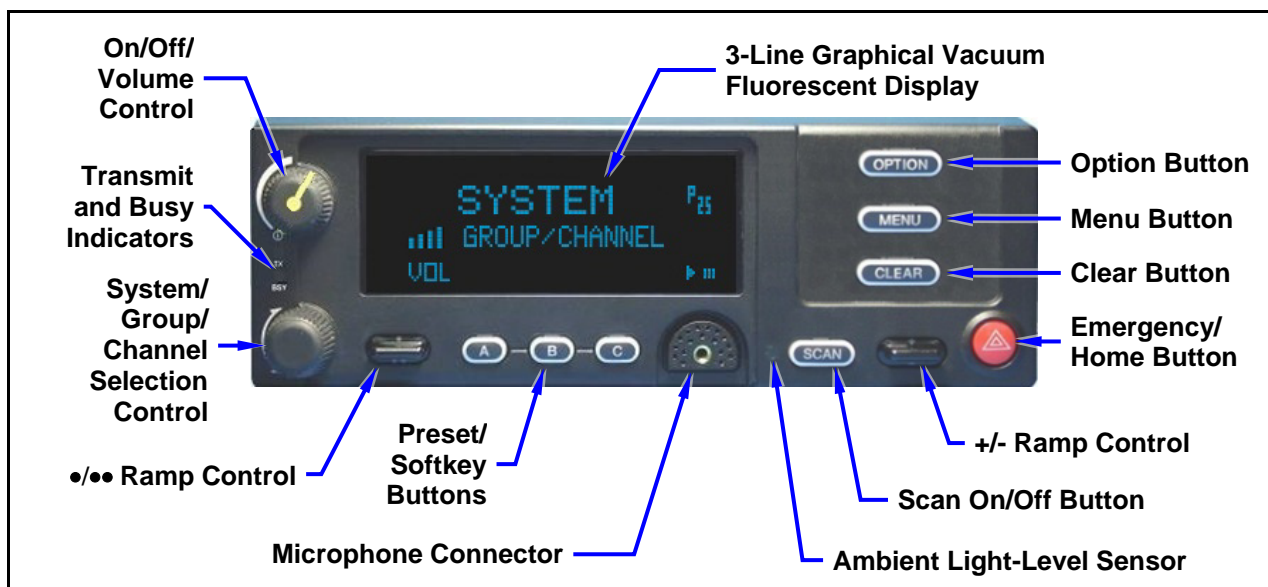
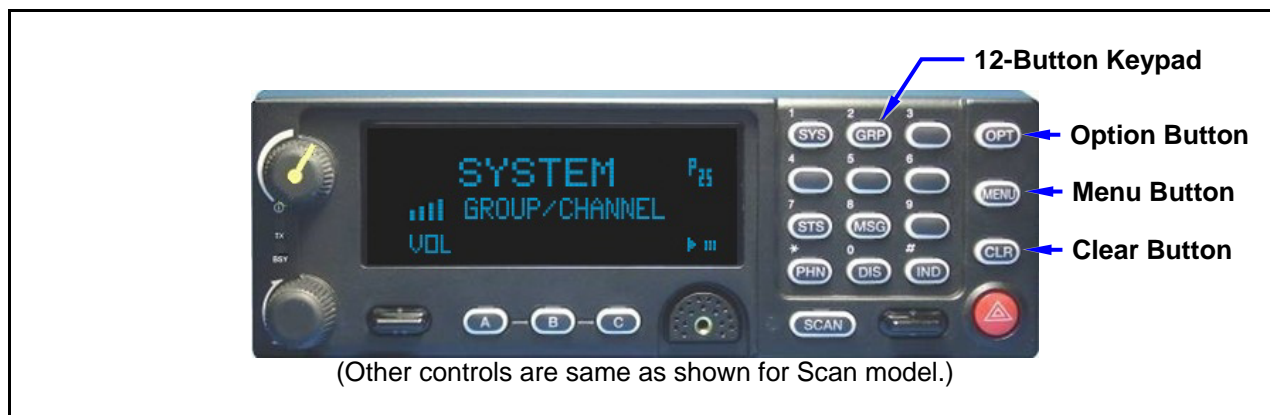

Figure 8-5: CH-721 Scan Model Control Head Front Panel
Figure 8-6: CH-721 System Model Control Head Front Panel
The remote-mount M5300 mobile radio must be connected to a control head to provide the operator-to-radio interface. Two different control heads are available — the CH-721 Scan model and the CH-721 System model. See Figure 8-5 and Figure 8-6 respectively. The CH-721 Scan model control head features three (3) large menu selection buttons. The System model control head has a 12-button keypad to allow advanced operations without the need of a DTMF-capable microphone.